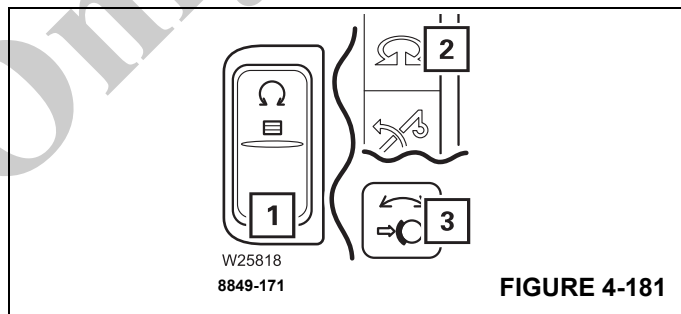

FIGURE 4-181
- Press the button (1), (Figure 4-181) once.
- The lamp in the button (1), (Figure 4-181) will light up dimly.
- Symbol (2), (Figure 4-181) will turn red if the swing gear is switched off.
- The swing gear brake is applied – lamp (3), (Figure 4-181) lights up.